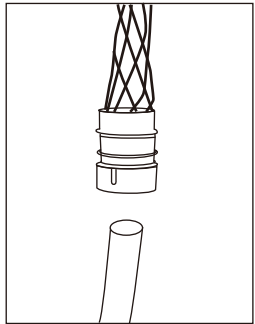

Fig. 1
2. Ensure the cams inside the housing and the lock ring is in the down position (Fig 1)